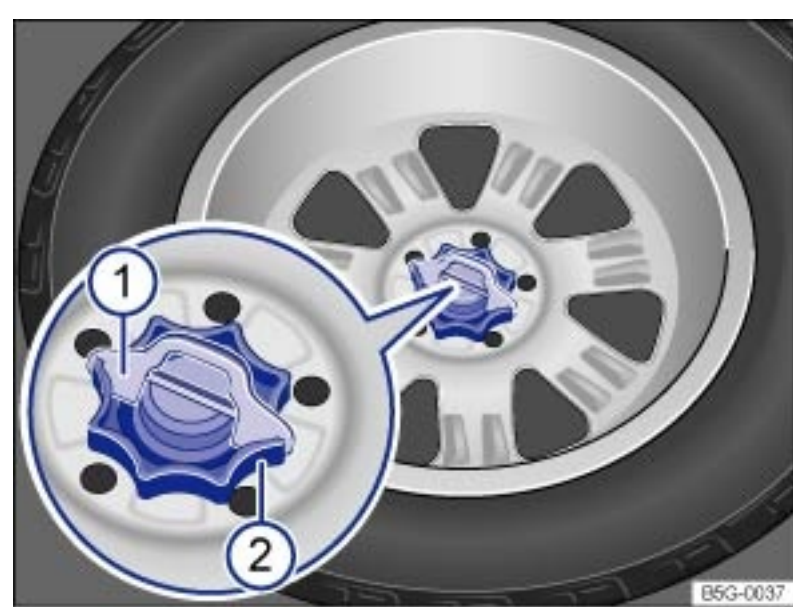

Fig. 112 In the luggage compartment:
Pull the securing clip → Fig. 112 ① (if equipped) out and up.
Turn the handwheel → Fig. 112 ② clockwise until the wheel is securely in place.